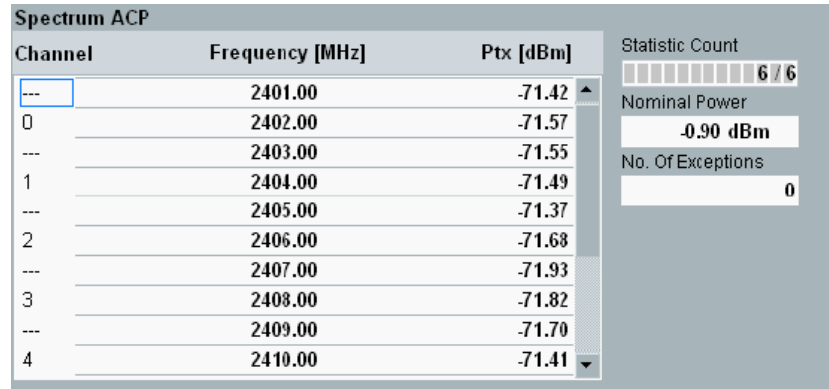

Fig 4. In-band emission all channels
- The Tx in-band emission scans all the LE channels (they are analyzed in 1-MHz half-channels and centered at 2401 MHz, 2402 MHz, ..., 2480 MHz. The test result is shown in Fig 4.